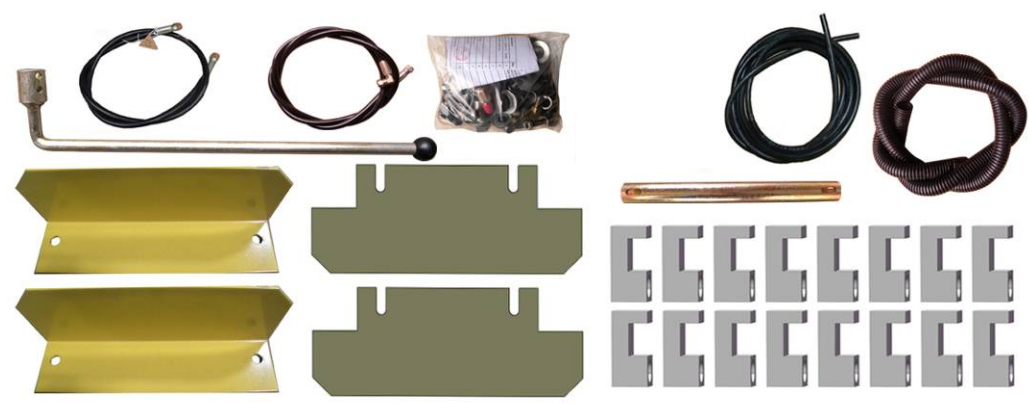

Fig. 8
6. Open the box of parts and check the parts according to the parts box list (See Fig. 8).